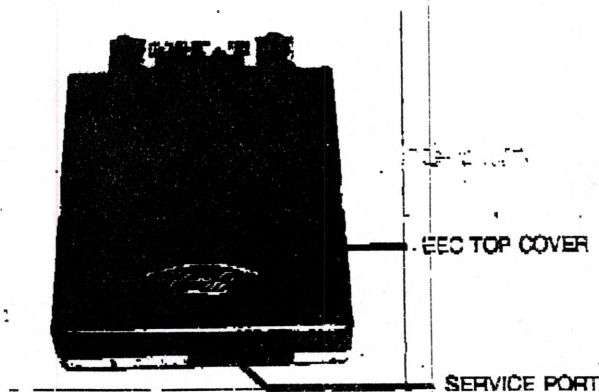

FIG.1 EEC COMPUTER
- FIG. 1,1-A,1-B ENGINE AND EXTERNAL ENGINE COMPONENTS**